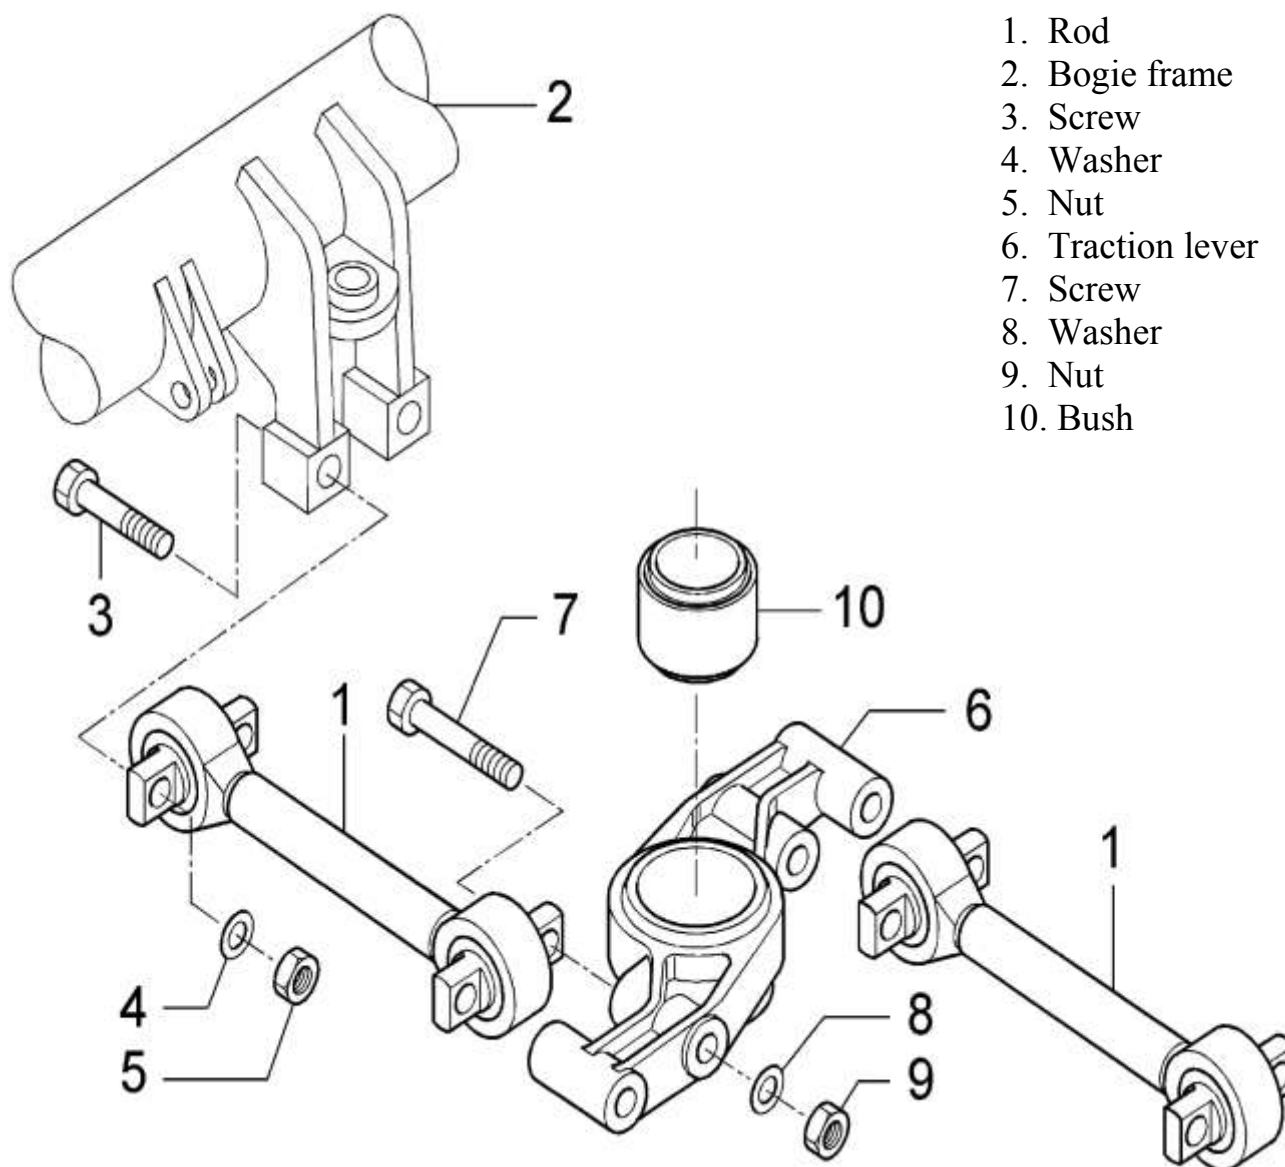

FIG. 4.31 Dismounting the Traction Centre
In order to dismount the traction centre (FIG. 4.31), disconnect the rods (1) from the bogie frame (2), extracting the screws (3), the washers (4) and the nuts (5). Then separate the rods (1) from the traction lever (6) extracting the screws (7), the washers (8) and the nuts (9). Then extract the bush (10) from the traction lever (6) using a press.